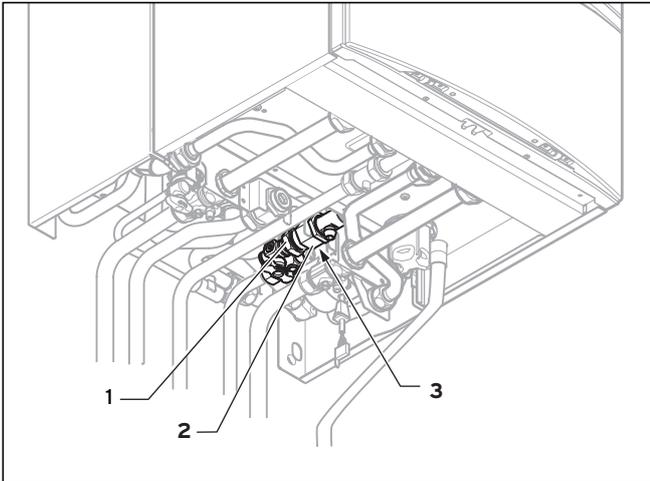

Fig. 8.11 Cleaning strainer in cold water supply
- Close the cold water stop valve on the inlet combination (see Fig. 8.11) and drain the unit from the hot water side.
- Release the fitting (1) of the cold water inlet.
- Release the fitting (3) on the connector (2).
The fitting (3) is located above the connector (2) and is not shown in Fig. 8.11.
- Remove the connector (2) from the chassis.